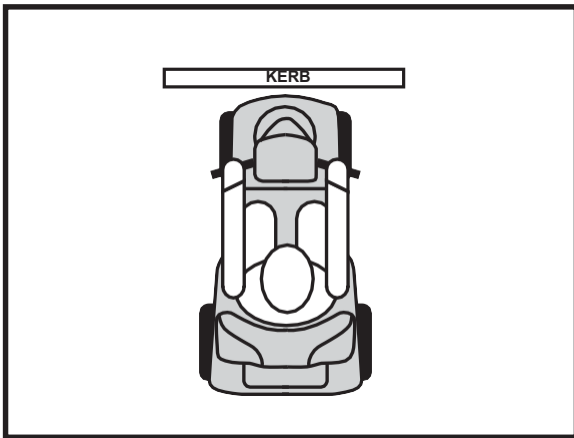

Figure 3. Correct Kerb Approach
**WARNING!** Be sure your Travel Scooter is traveling perpendicular to any curb you may be required to ascend or descend. See figures 3 and 3A.